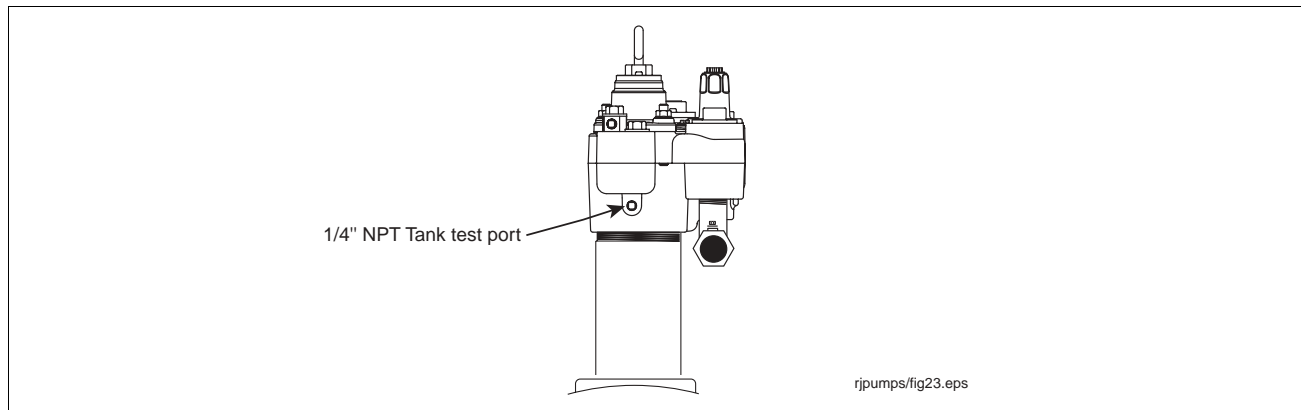

Figure 52. Tank test port on manifold
2. Remove and save the 1/4" NPT tank test port plug and attach tank testing equipment (see Figure 52).